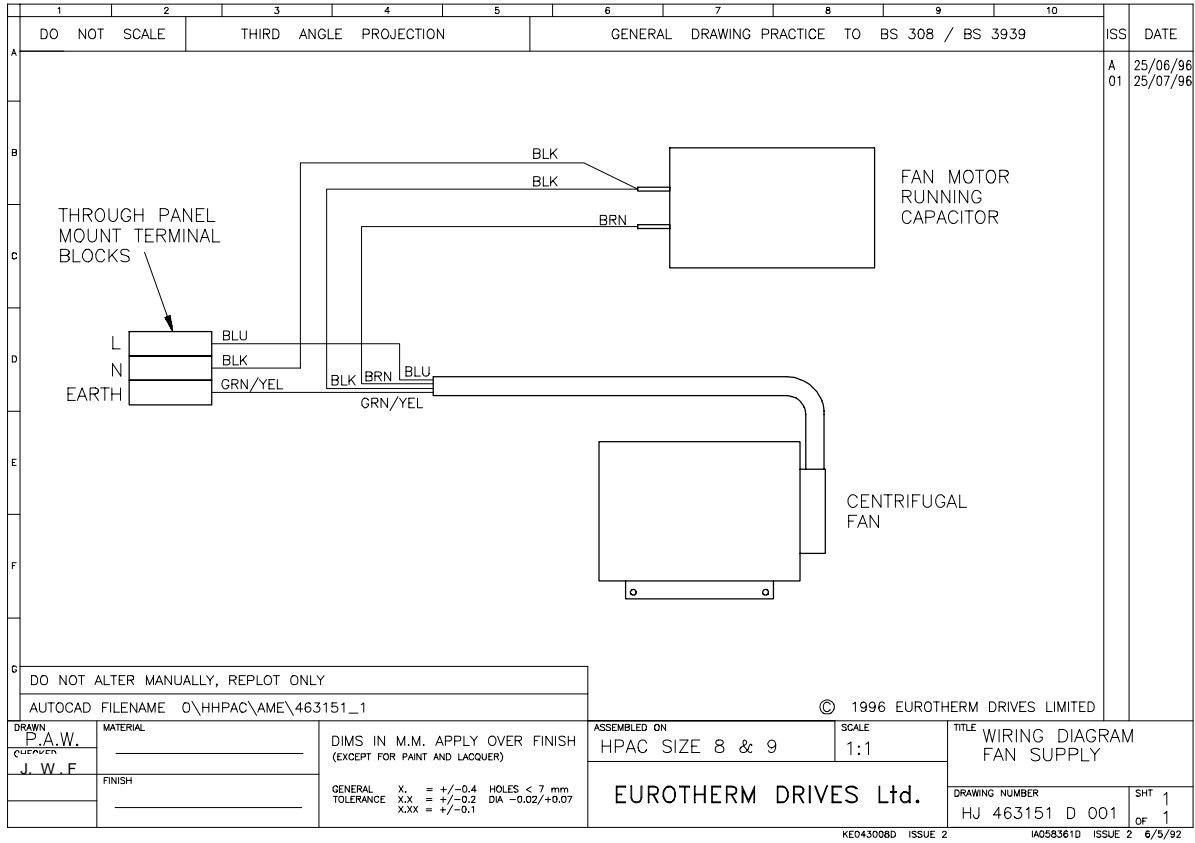

Figure 8-6 Wiring Diagram Fan Supply (Types 8 & 9)
9. Re-connect fan wiring loom and ensure that electrical safety isolation is preserved, refer to wiring diagram HJ 463151 D 001, Figure 8-6, page 8-10.